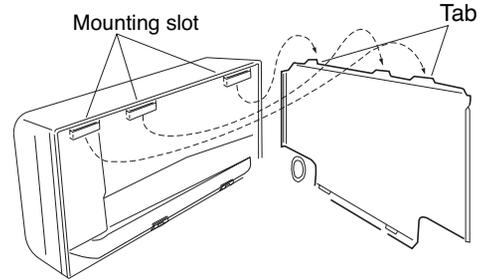

Fig. 3-47
- (a) Hang the 3 mounting slots of the unit on the upper tabs of the rear panel. (Fig. 3-47)